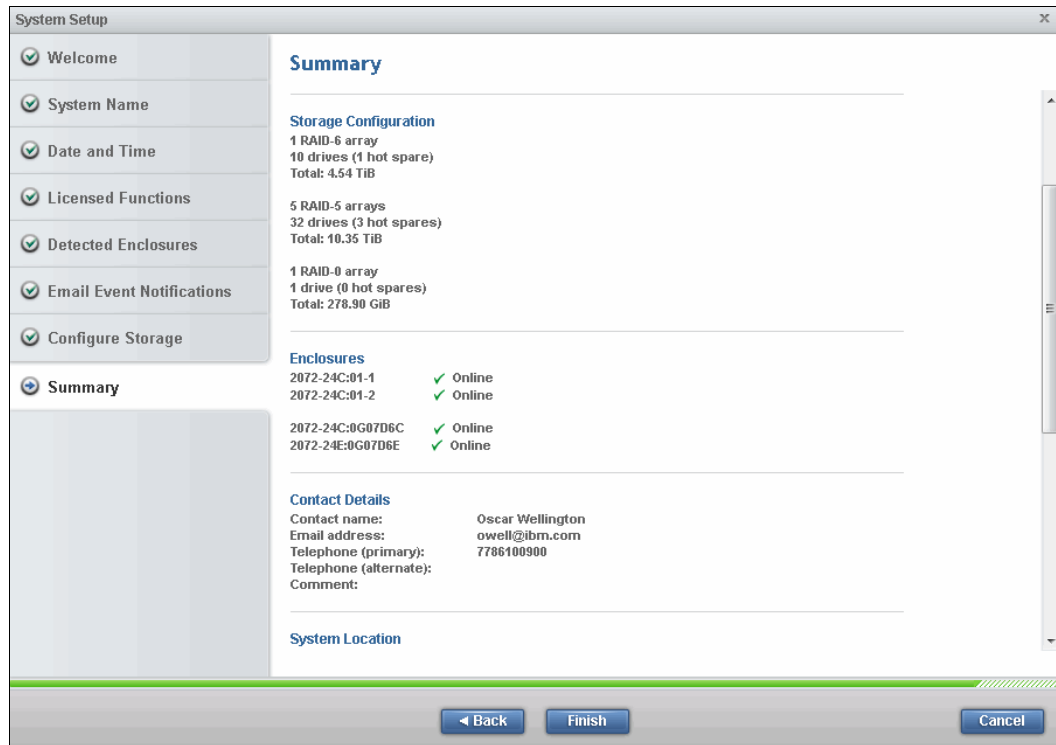

Figure 2-32 System Setup: Summary window
15. Select **Configure storage now**, and then click **Next** to move to the summary window that shows the RAID configuration that the IBM Storwize V3700 implements, as shown in Figure 2-32.